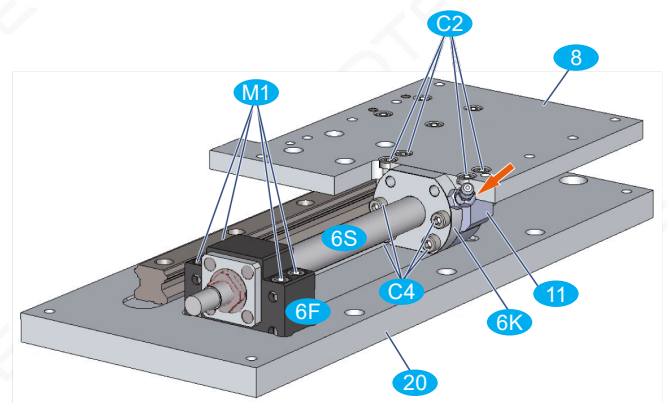

Fig. 37: Installation of drive Z
- Place the pre-assembled drive Z **6** on plate Z **20** as shown in Figure 37; Please note the following: